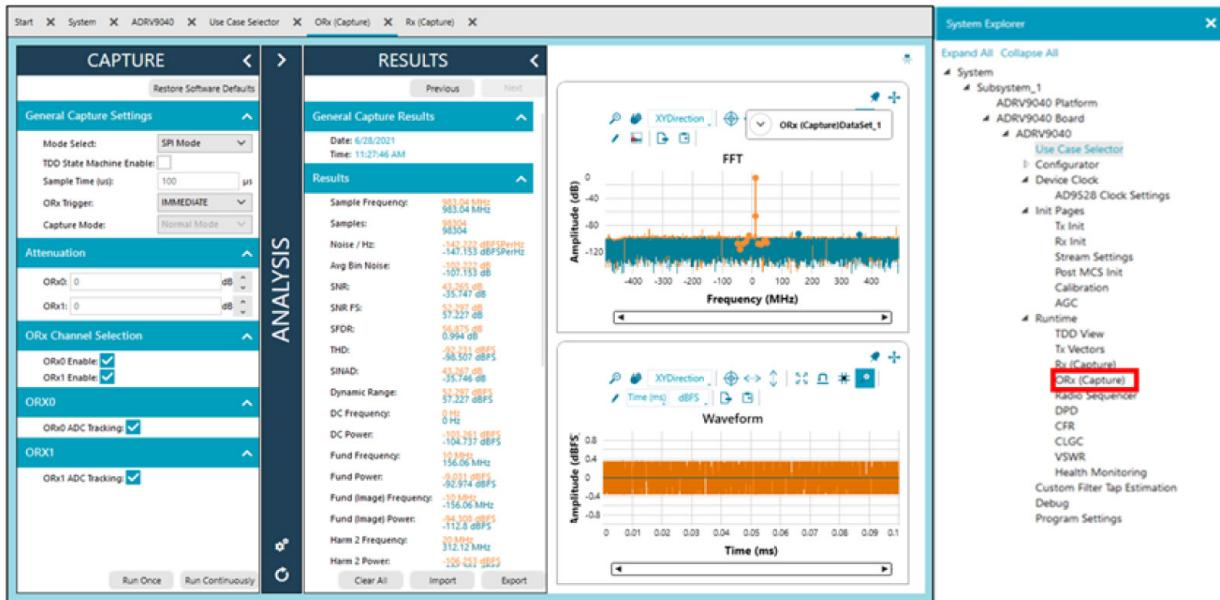

Figure 57. ORx0 and ORx1 Data Captured over JESD Link, with Tx LO + 10MHz Input Tone Applied to ORx0
The process for capturing observation receiver data is similar to the Rx (Capture) process as shown in Figure 57. The process is as follows:
2. Confirm that the desired observation receiver channels are enabled. Note that when using a link sharing profile, ensure that no receiver channels are enabled at this time. Receiver channels can be disabled from the **System Explore > Runtime > Rx (Capture)** as shown in Figure 57.
On the **Rx (Capture)** and **ORx (Capture)** pages (see Figure 56 and Figure 57), each provides data analysis tab that allows the user to manipulate the FFT calculations to best fit their requirements. The user can configure FFT analysis settings, manipulate FFT durations, and perform simple spur analysis. On both **Rx (Capture)** and **ORx (Capture)** pages, the **Analysis** tab provides information about the received signal. This tab is directly related to the **Results** tab, such that the selections determine the information presented to the user.